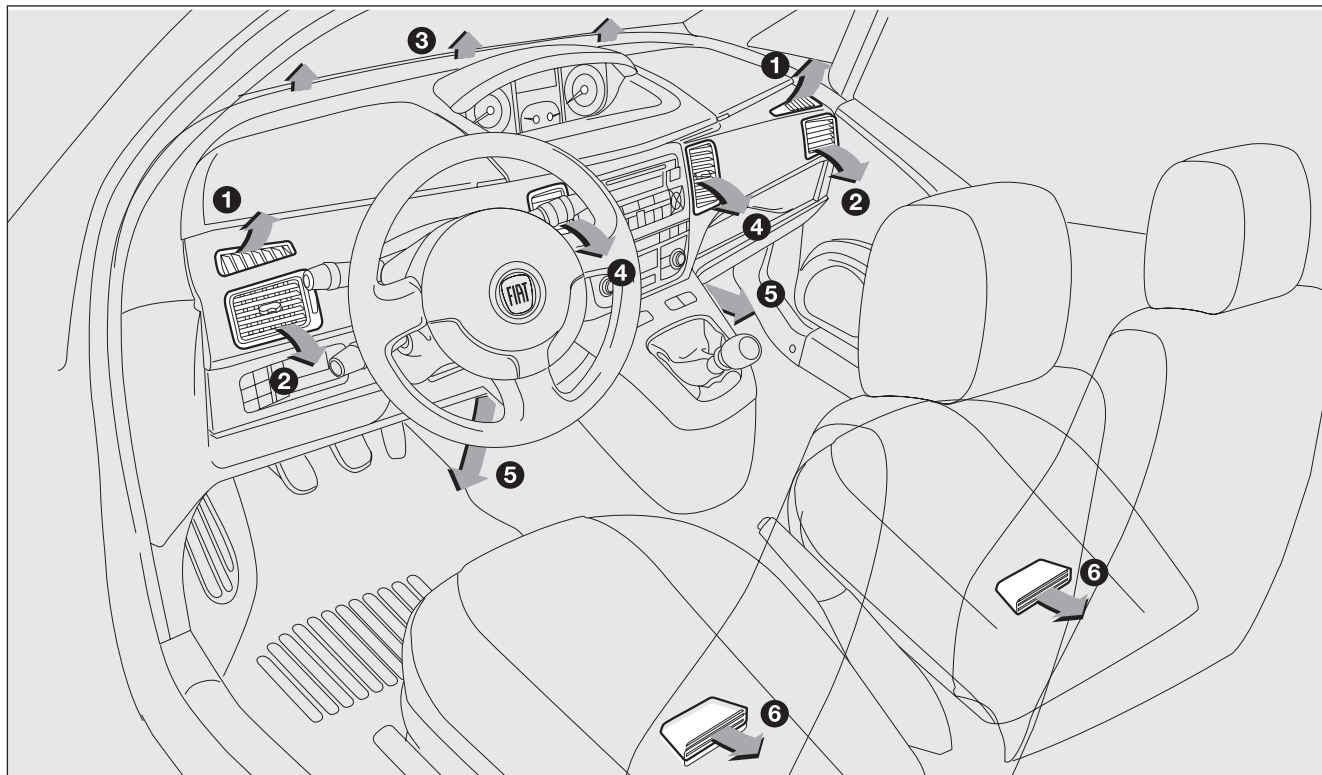

fig. 60
-  air flow from centre and side vents (2) and (4) **fig. 60**;
-  air flow from centre and side vents (2) and (4) and downwards (5) and (6) **fig. 60** (bilevel function);
-  air flow downwards (5) and (6) **fig. 60**;
-  air flow downwards (5) and (6) **fig. 60** and also to the windscreen (3);
-  to demist and defrost windscreen (3) and front side windows (1) **fig. 60**.
- ☐ open completely central (4) and side (2) **fig. 60** vents;
-  air flow from central vents and side outlets (2) and (4) **fig. 60**;
-  air flow downwards (5) and (6) and also to the windscreen (3) **fig. 60**;